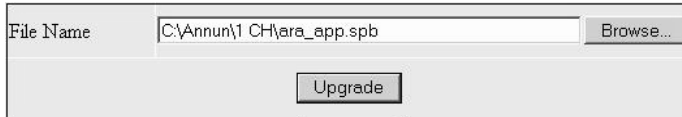

Figure 6: Firmware update screen
3. Click **Upgrade**. See Figure 6.